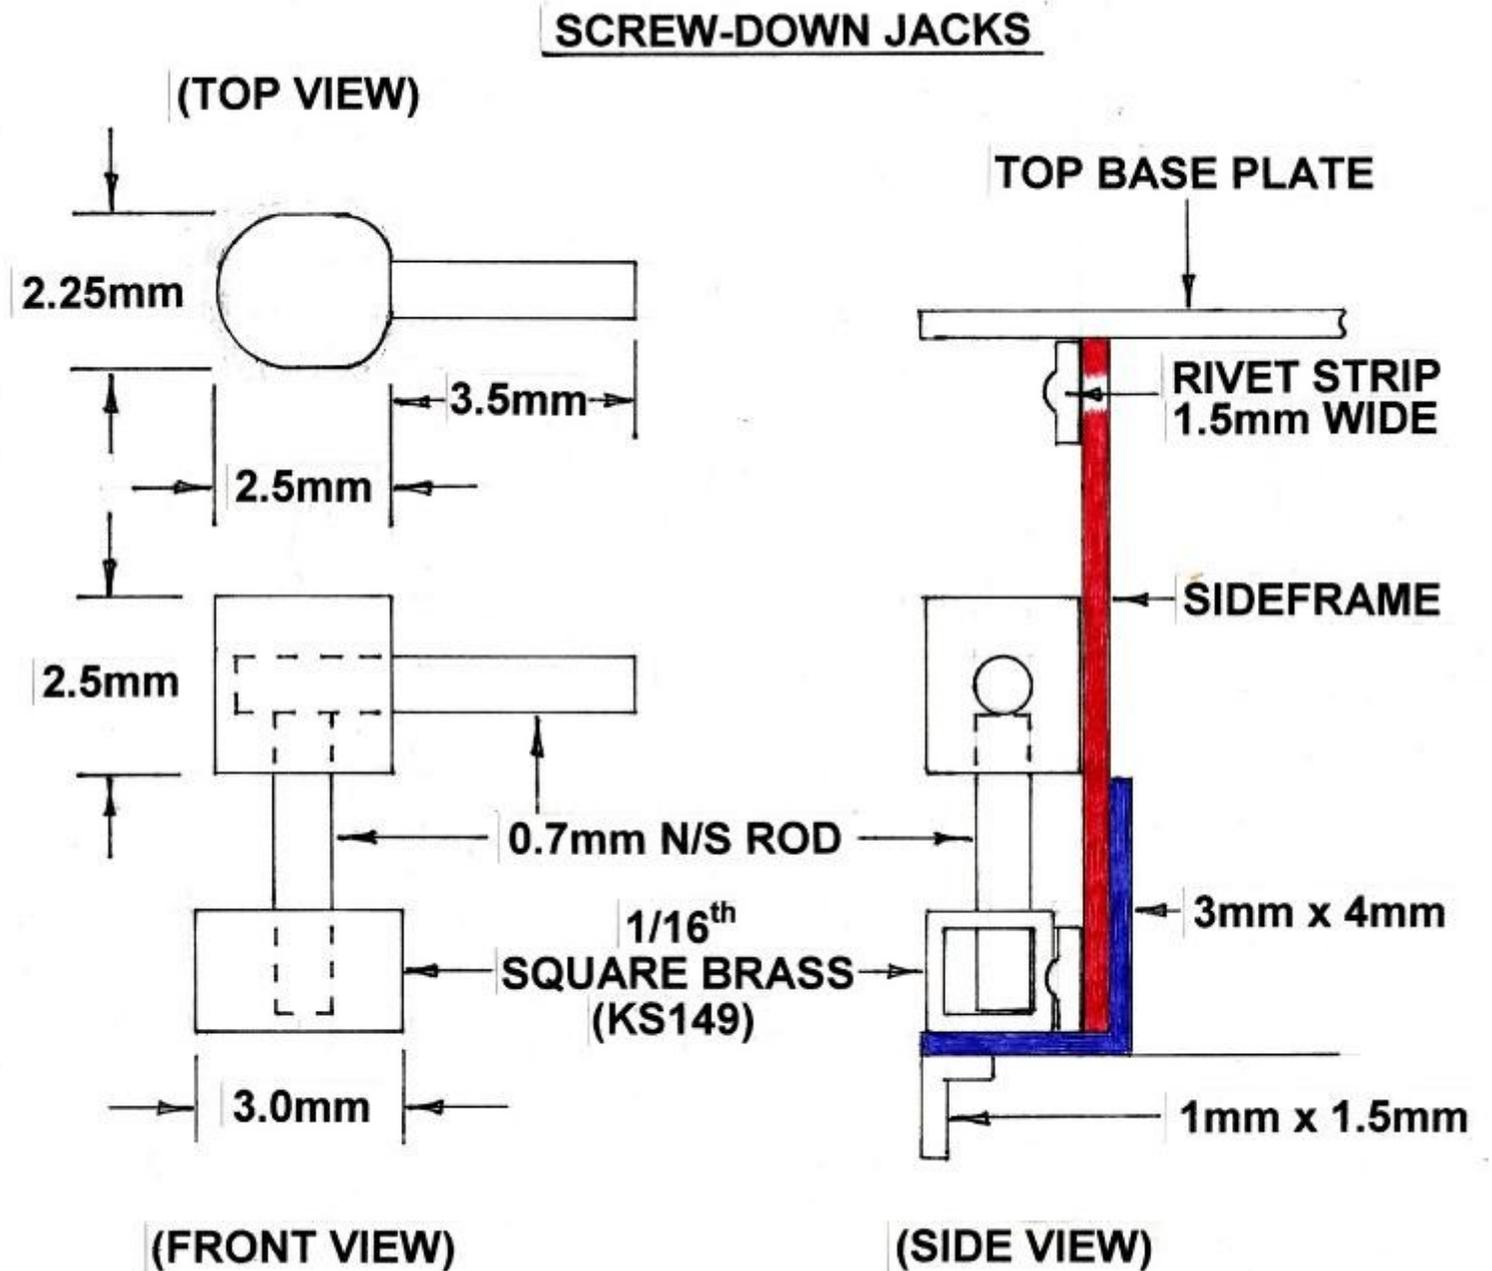

Figure 1
6.00-6.25mm. When precisely measured, they were soldered into the bottom blocks. When I was happy with the overall height (judged by the photo), all six were completed. They were then very carefully soldered into position using low melt solder at first, then some delicate use of Carrs 145 solder for some strength (Figure 1). A pair of five spoke brake wheels were made next. From the photo and my